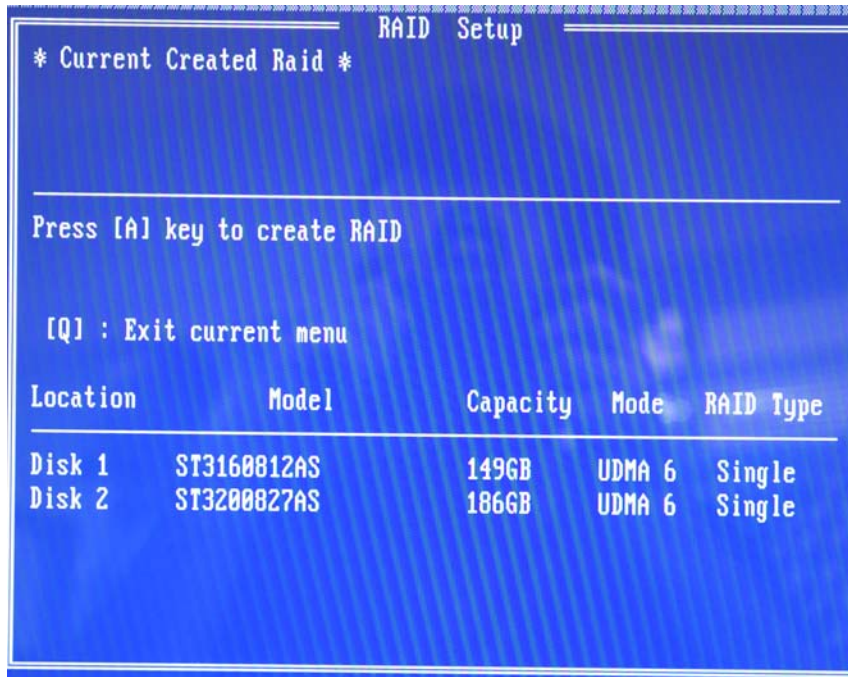

Figure E-5: Create RAID
Step 3: To setup the RAID, press "R." The RAID setup screen will appear (**Figure E-5**).
- Step 4:** Click "A" to setup the RAID (Figure E-5).